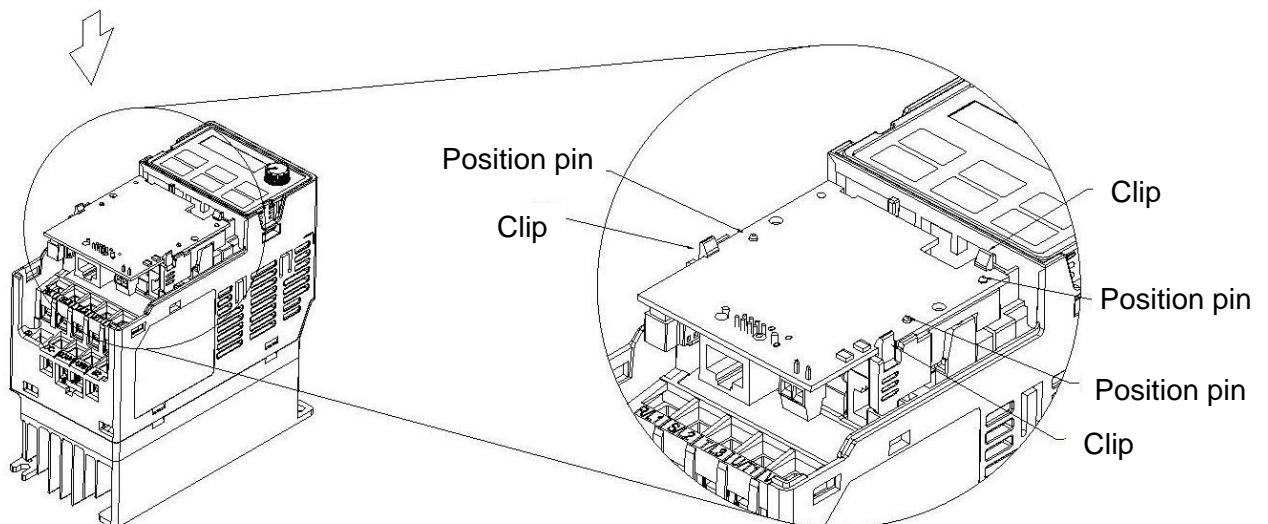

Fig. 8-4
6. After the wiring is completed, loosen the option card of the front mounting, and reverse-mounted, aim the three holes at the positioning pin, press the pin to clip the holes with the option card. (shown in Fig. 8-4)